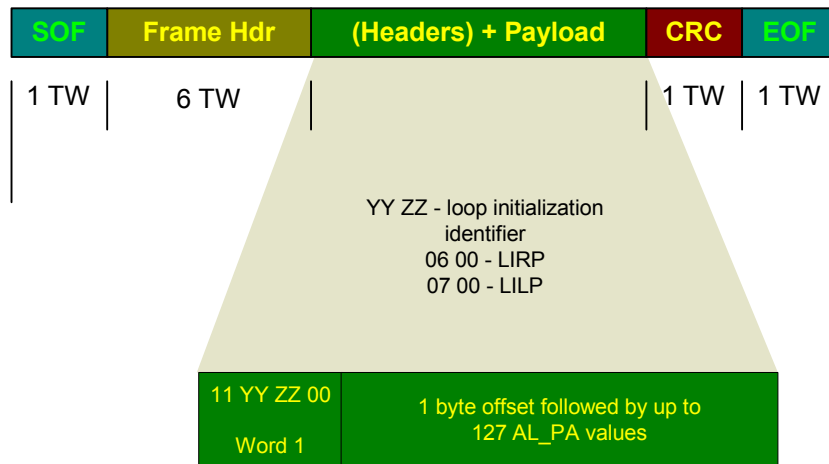

Figure 21 LIRP/LILP frame format
- ◆ The **LIRP** step involves building a map of the AL_PA values according to their position on the loop relative to the temporary loop master. The temporary loop master begins this process by building a LIRP frame with the structure shown in Figure 21 on page 40.